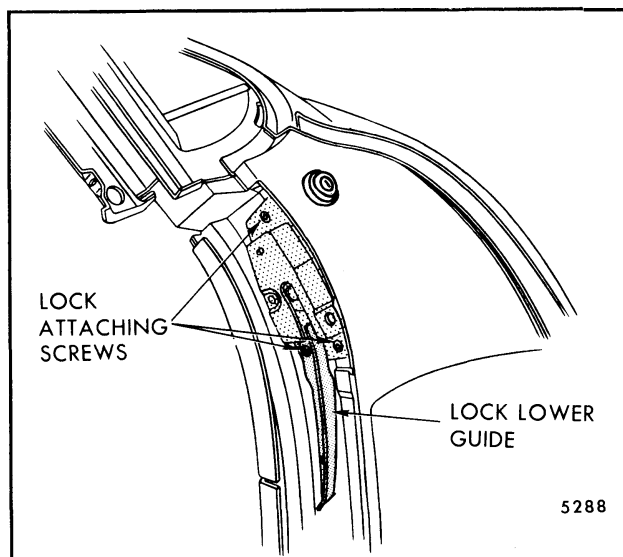

Fig. 7-109-Lock and Lock Lower Guide Attachment
4. For either manual or electric tail gates, remove lock attaching bolts at pillar facing and remove lock and lock lower guide (Fig. 7-109).